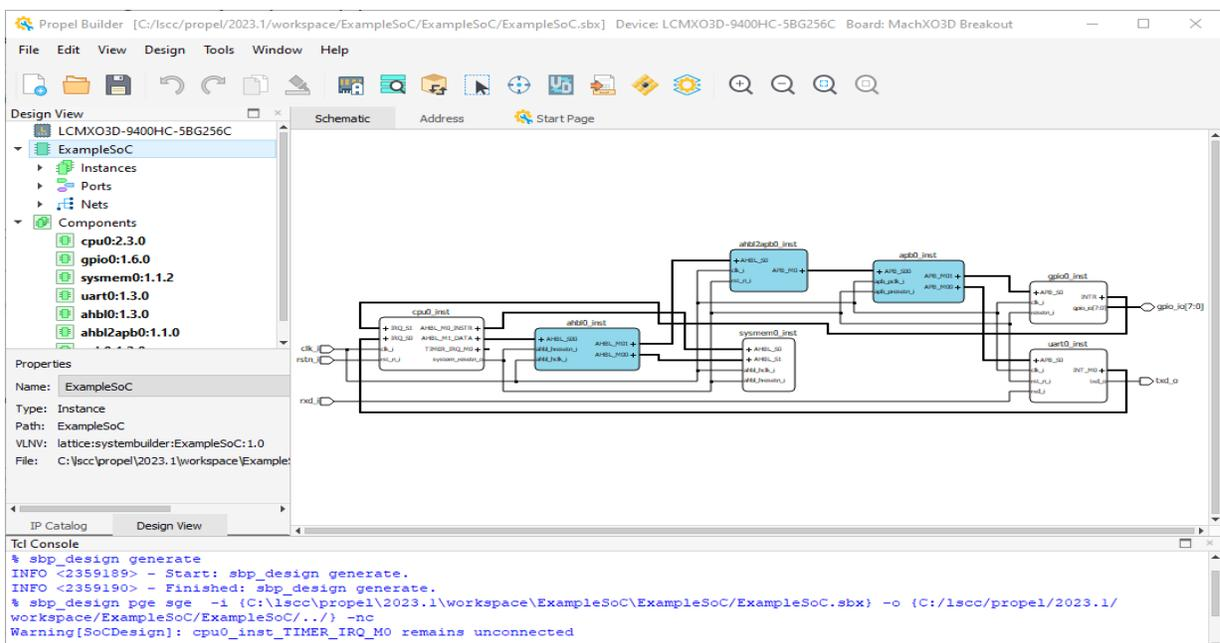

Figure 3.10. Propel Builder Window
The SoC design project is created in workbench, and its design is opened and displayed in Propel Builder (Figure 3.10).
3. The SoC Design is opened and displayed in Propel Builder (Figure 3.10).